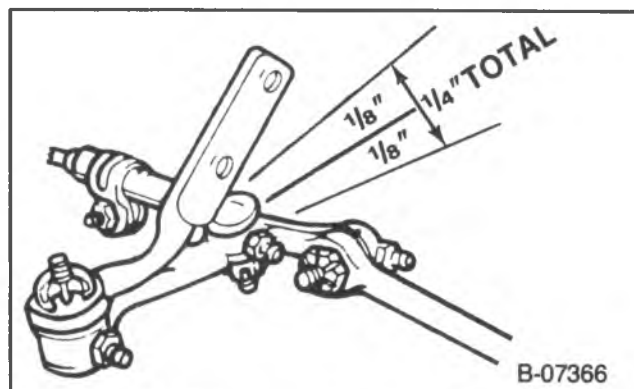

Figure 4 — Checking Idler Arm Movement
Inspect (Figures 4 and 5)
- Allow no more than ± 3.18 mm (1/8 in.) deflection in each direction, for a total of 6.32 mm (1/4 in.) (figures 4 and 5).